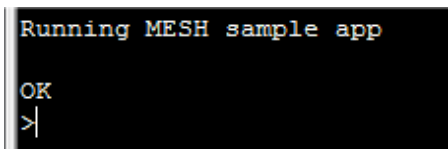

Figure 11: Client and server boards message
4. Confirm that you see the following message for the client and server boards (Figure 11).